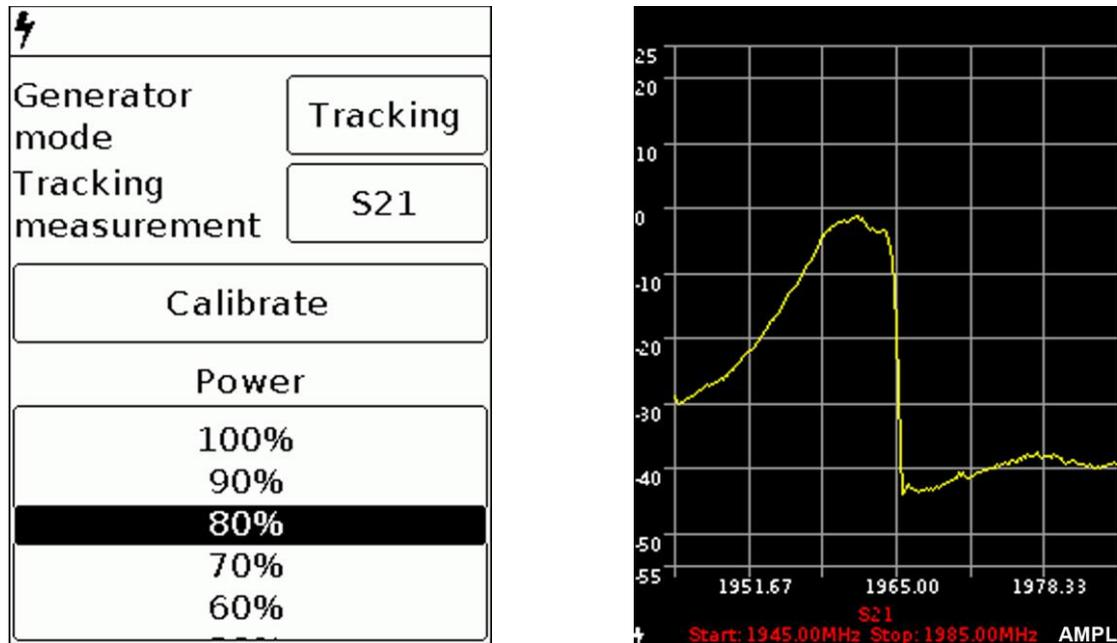

Figure 8.4.3 – Measurement of the amplitude-frequency characteristics of the equipment under test
8.4.2.1. Select the generator mode «Tracking» and type **S21** measurements (Figure 8.4.3).